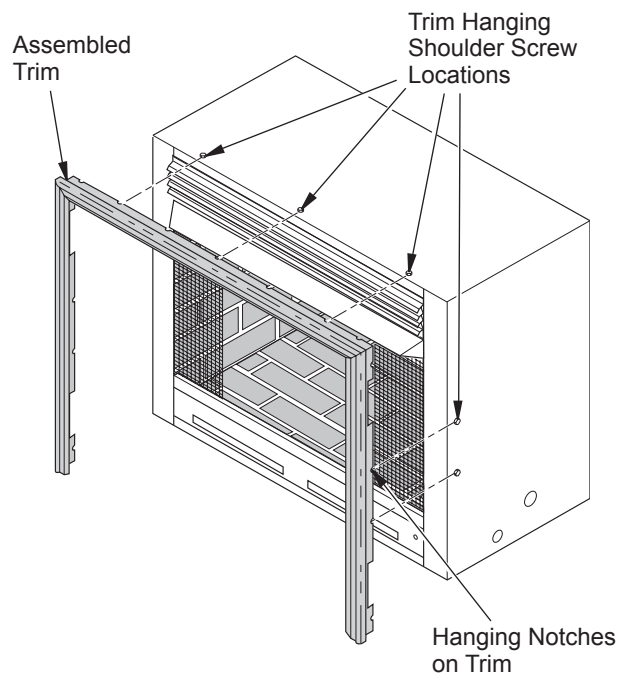

Figure 2 - Attaching Trim to Firebox
Note: Firebox model may vary from that shown in Figure 2.
8. Place the assembled trim onto firebox cabinet. Align hanging notches on trim with trim hanging shoulder screws (see Figure 2). Tap trim firmly into place with palm of hand or rubber mallet by engaging hanging notches around shoulder screws. Start at one end of the trim and work around firebox until all notches are fully engaged.